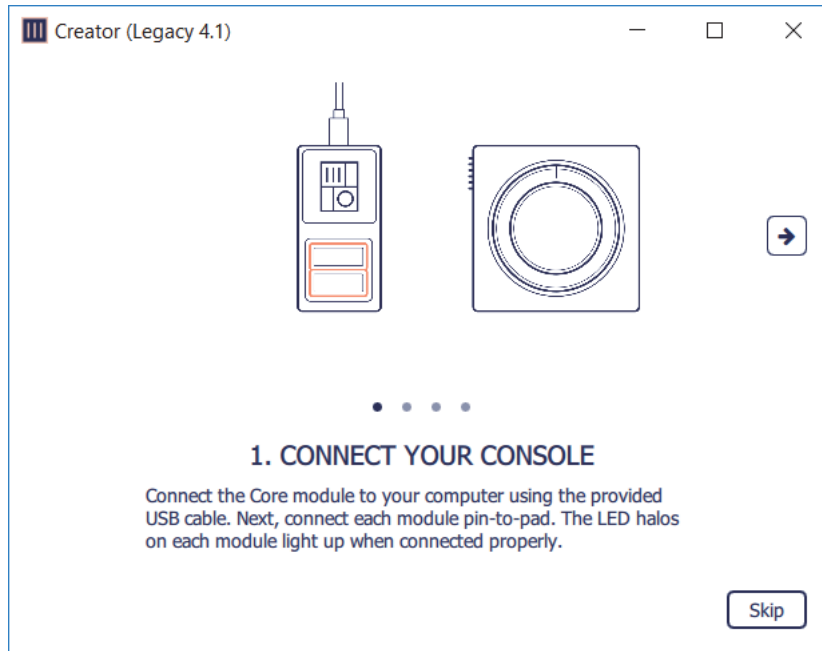

Figure 18 - Connect Console Dialog Box
3. The connect console dialog box appears (Figure 18).